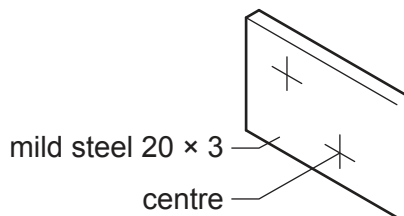

Fig. 13.2
- (b) Fig. 13.2 shows part of the mild steel bracket with the centres marked out for two holes to be drilled.